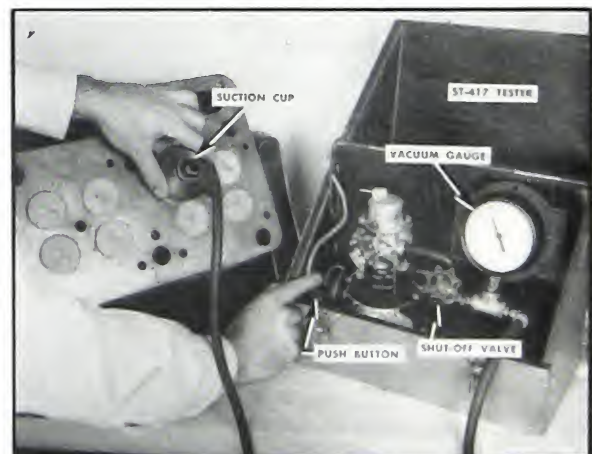

Fig. 3-21. Using the ST-417 tester
4. Turn the hand shut-off valve to open position, and hold the push button down to operate the vacuum pump. Fig. 3-21.